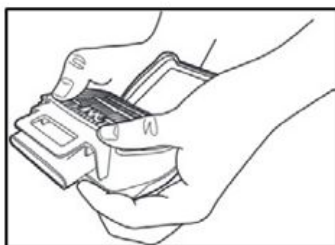

Fig.6
2. Align the larger half of the retainer with the back (flat side) of the cartridge. Using both hands, press the retainer onto the cartridge, ensuring you press on all four corners of the cartridge/filter retainer (Fig. 6). The filter retainer has touchpoint indicators on each corner. You should hear the retainer click into place.